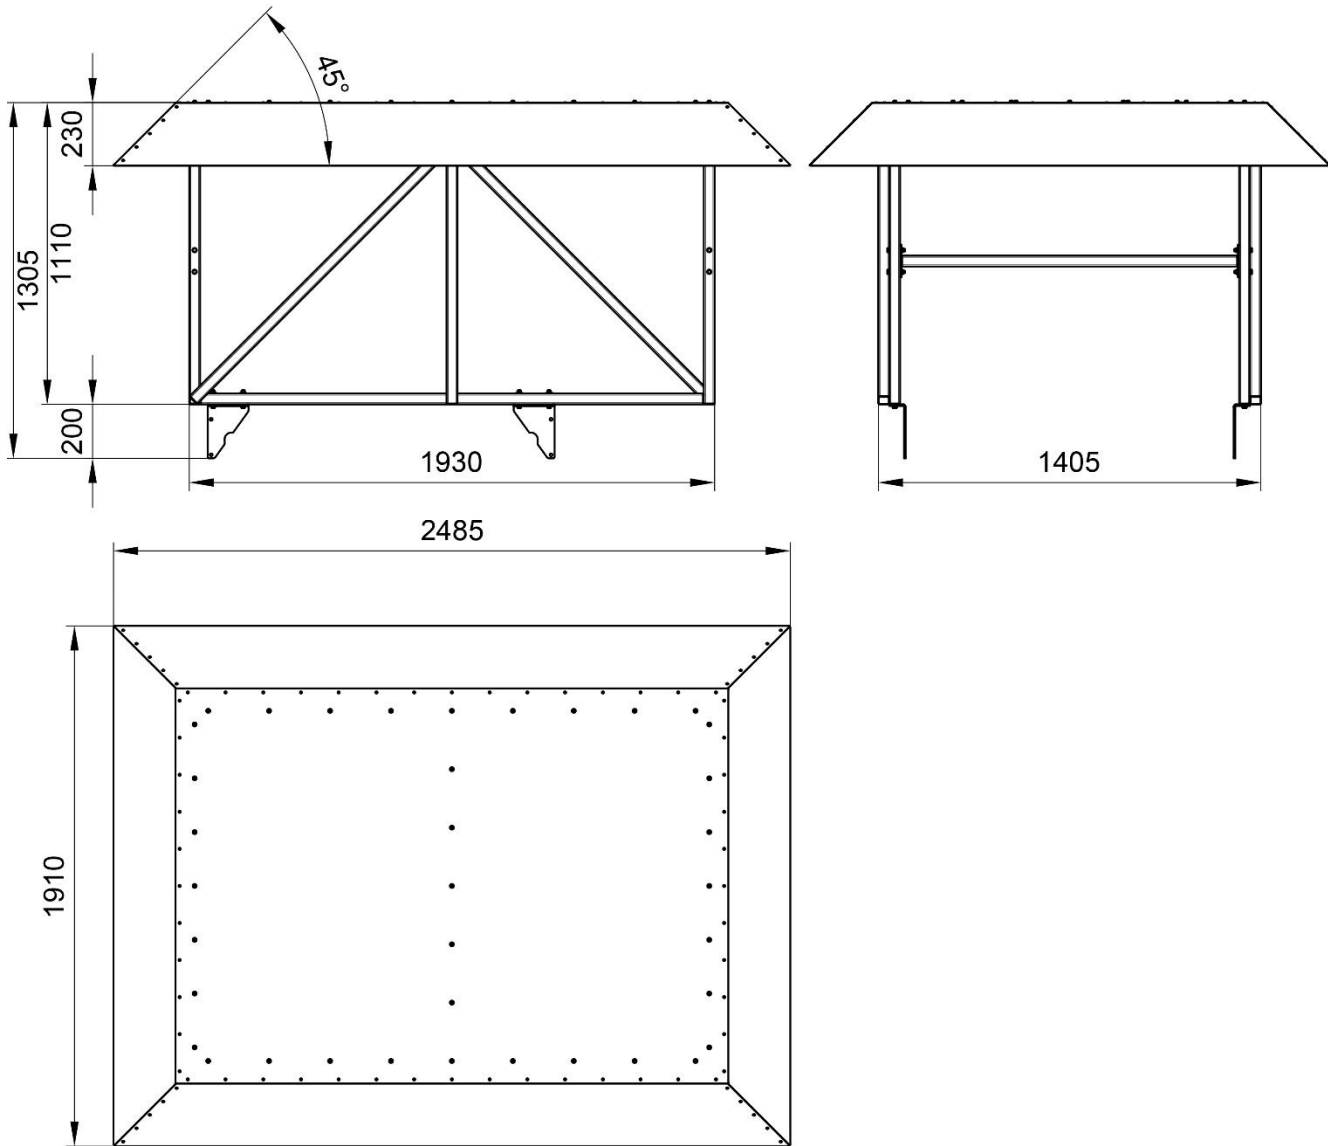

Fig. No.2 – Additional Equipment – Fan cover OW-UFO-A-20000 – to be installed on the device
- As additional equipment, (upon separate order) the device can be equipped with a fan cover, installed on the device (see Fig. No.2).
It is recommended to install the UFO-A filtering unit inside the rooms. In case of outdoor application it is advisable to introduce a fan cover (see Fig. No.2 “Additional Equipment”).